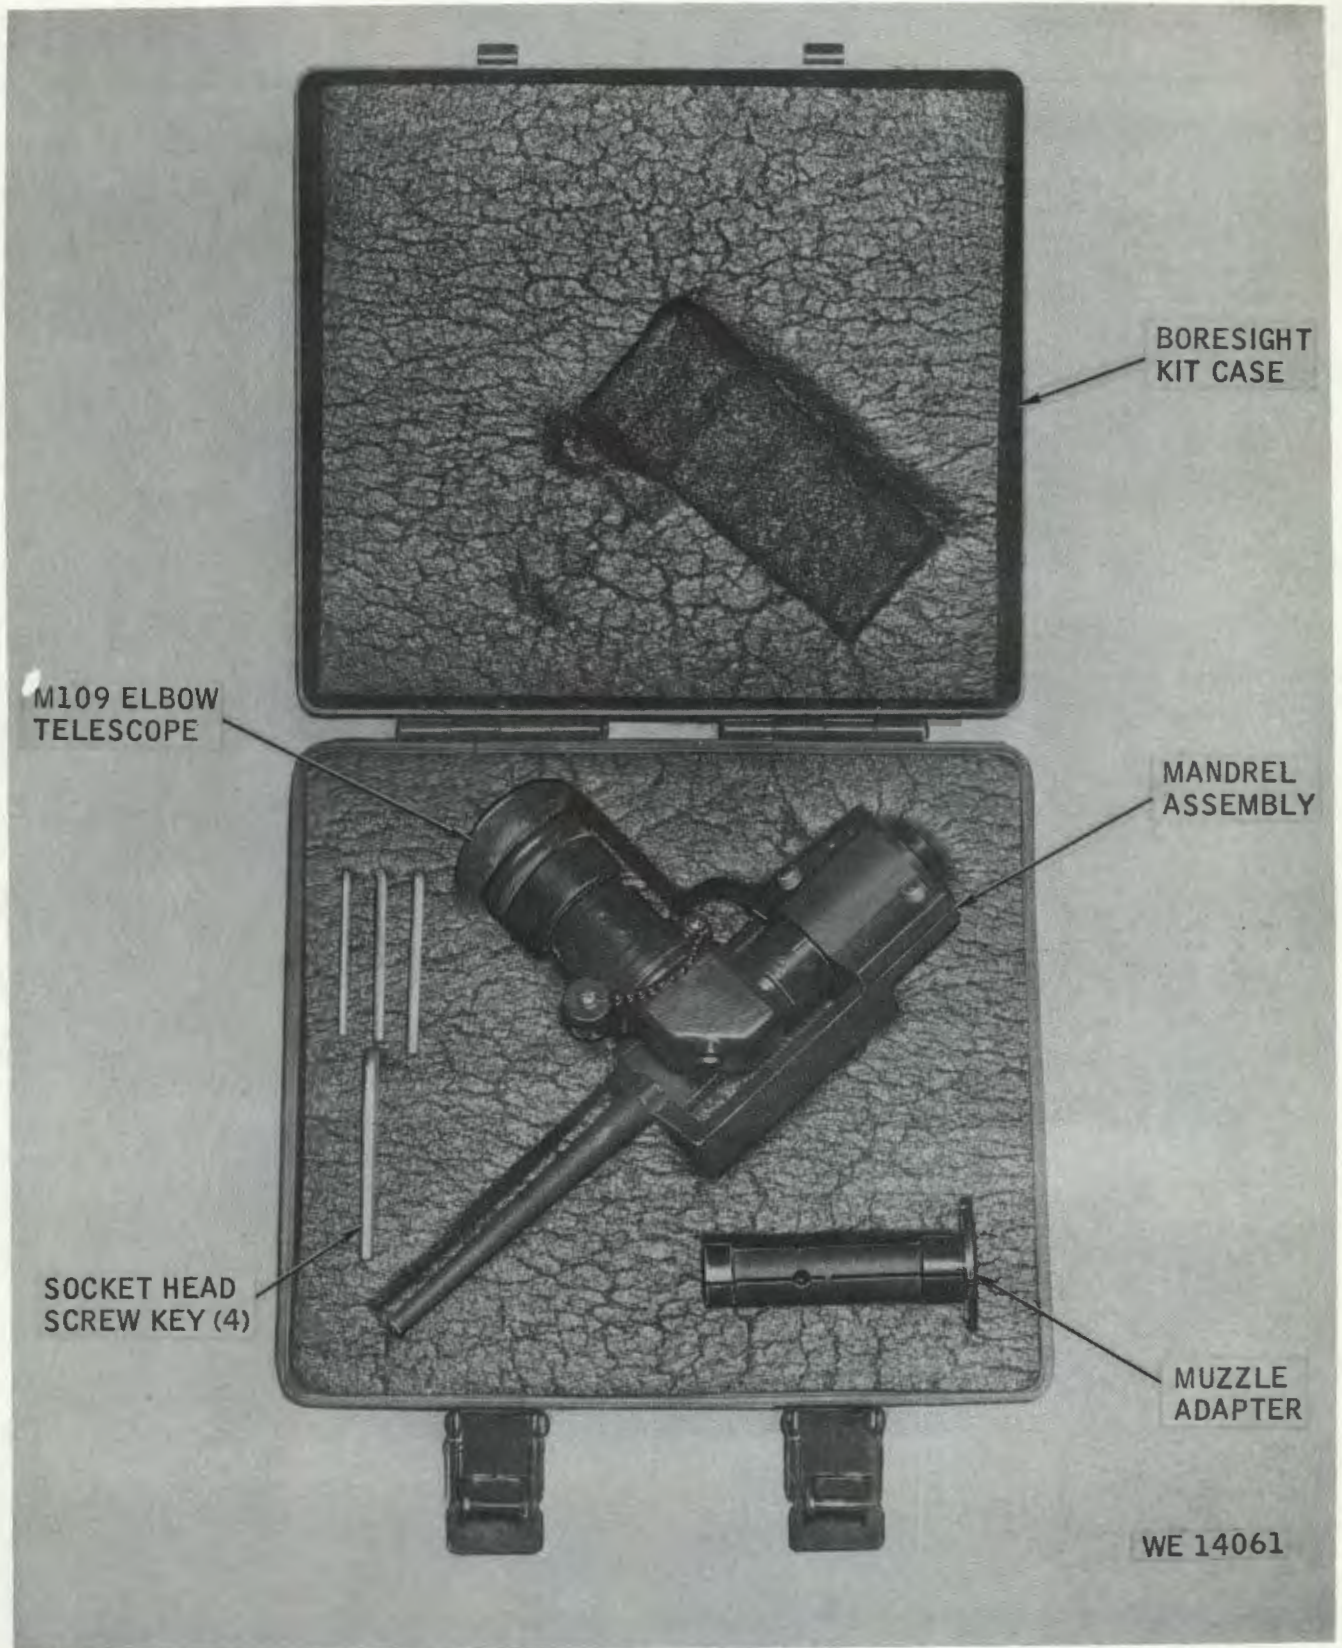

Figure 1-18. Boresight kit.
f. *Boresight Kit.* The boresight kit (fig. 1-18) is used to boresight the XM163 system. It consists of a boresight kit case, muzzle adapter, mandrel assembly, elbow telescope M109 and four socket head screw keys.